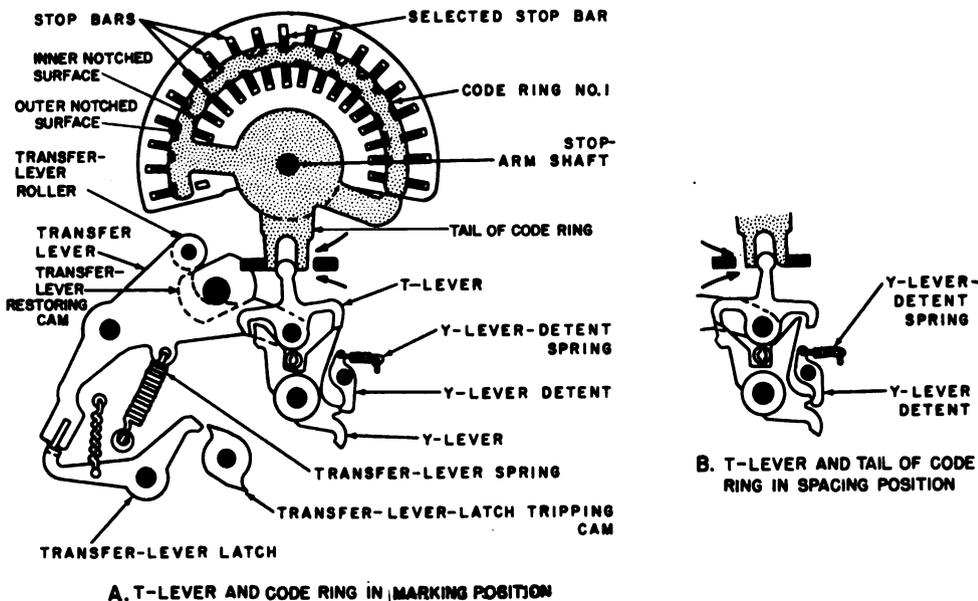

Figure 2-21. T-levers and code rings set to marking and spacing positions.
with, an associated Y-lever. The vertical arm of each T-lever is in engagement with a slot in the tail of an associated code ring. The five code rings (fig. 2-21) pivot around the stop-arm shaft. The code rings are moved to the marking and spacing positions as described in *a* and *b* below. During printing, the code rings of the TT-4B/TG, TT-4C/TG, TT-35/TG, TT-537/G, TT-698A/TG, and TT-98B/TG are locked in their selected positions as described in *d* below. The TT-4/TG and TT-698/TG does not include the code-ring locking feature.
transfer lever. The tension of the transfer-lever spring turns the transfer-lever clockwise and the T-levers move downward, against the upper arms of the Y-levers (fig. 2-21).
ring to pivot clockwise to the marking position (A, fig. 2-21).
(2) *Setting code ring to spacing position.* If a Y-lever is in the spacing (counterclockwise) position when the T-levers move downward, the left hand arm of its associated T-lever strikes the left hand arm of the Y-lever and the T-lever pivots clockwise, causing its associated code ring to pivot counterclockwise to the spacing position (B, fig. 2-21).
(1) During the transfer operation, the transfer-lever roller moves toward a low part of the transfer-lever restoring cam (fig. 2-21). Immediately after the transfer operation occurs, the restoring cam starts to turn, (2 below). A lobe of the restoring cam pushes the roller upward to cause the transfer lever to pivot counterclockwise slightly until it is latched by the transfer-lever latch.
| 2 | Transfer-lever latch releases transfer lever (fig. 2-21). |
b. Stop-Bar Selection. The inner and outer surfaces of the curved portion of each of the code rings are notched (fig. 2-21 and 2-22). The pattern of notches in each code ring differs from the notch pattern of the other four code rings. When the transfer operation occurs, each of the code rings is positioned clockwise or counterclockwise, and the five code rings form a groove in line with one of the stop bars. Pressure of the stop-bar spring causes the stop bar to move into the groove formed by the code